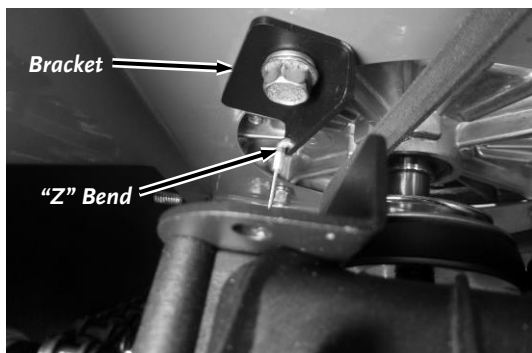

Figure 39
7. Disconnect the Z-bend end of the Drive Cable from the Bracket (Figure 39).
17. Reconnect the Z-bend end of the Drive Cable into the Bracket hole (**Figure 39**).